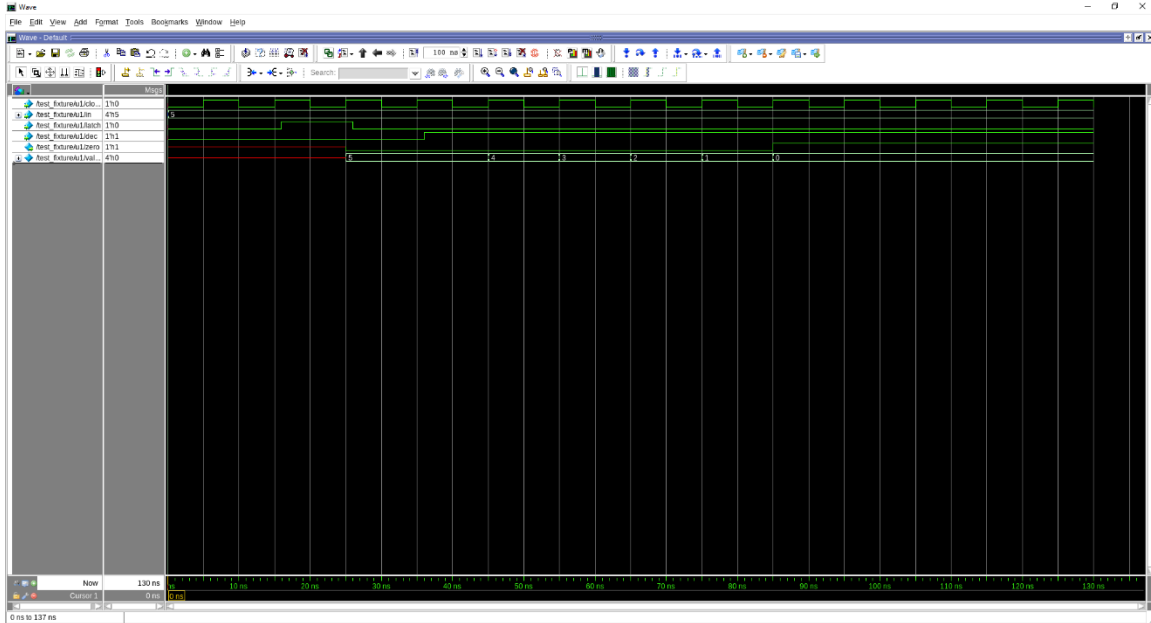

Figure 5: After running
- i. Click on the **Run** icon or click on **Simulate** → **Run** to generate the signal waveforms for our example Verilog counter circuit as shown in Figure 5.